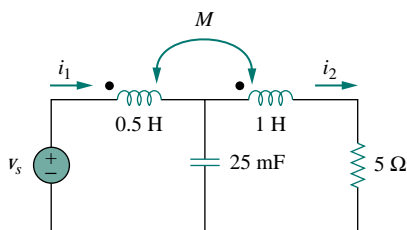

Figure 13.86 For Prob. 13.16.
- 13.16** If $M = 0.2\text{ H}$ and $v_s = 12 \cos 10t\text{ V}$ in the circuit of Fig. 13.86, find i_1 and i_2 . Calculate the energy stored in the coupled coils at $t = 15\text{ ms}$.